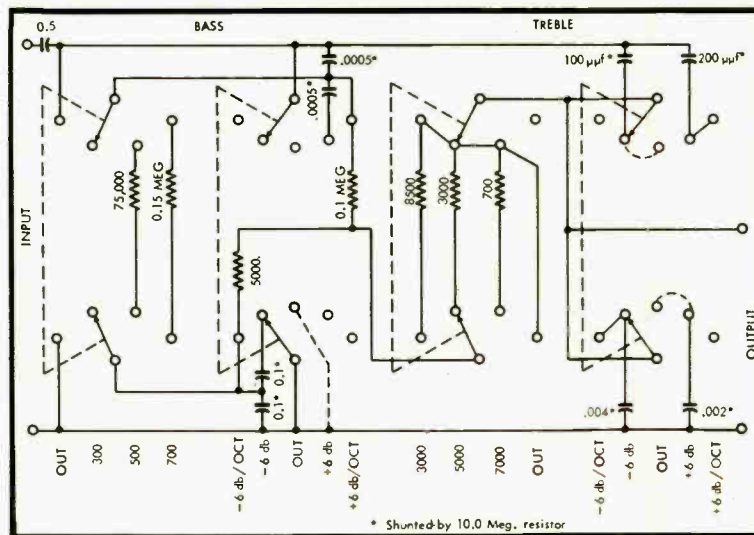
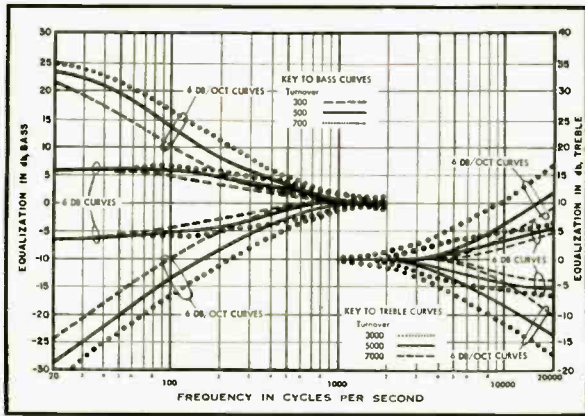
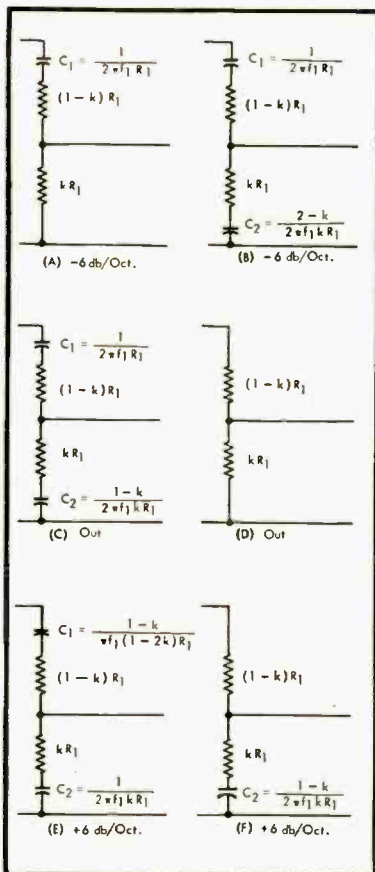

Fig. 1. Schematic of amplifier employing the tone correction circuits described in the accompanying text.
Fig. 2. Basic characteristics of the various equalization curves provided by the circuit of Fig. 1.
Fig. 3. Circuit configurations and formulas for bass equalizer section.
The circuit of Fig. 1 has been in use in the author's home amplifier for the past two years and provides both types of control. Four two-gang rotary switches are used—preferably of the shorting type. The circuit also uses fifteen resistors and eight capacitors exclusive of the input coupling capacitor. For simplicity, the diagram omits the 10 megohm resistors that are shunted across the eight capacitors to minimize switching transients. Two switches provide choices of nominal 3-db frequencies: OUT, 300, 500, or 700 cps for bass, and 3000, 5000, 7000, or OUT for treble. The other two switches provide corresponding choices of 6-db-per-octave droop, droop to a depressed 6-db plateau, boost to a 6-db elevated plateau, or 6-db-per-octave boost. The insertion loss is approximately 26 db, which is made up by a preamplifier. Other 3-db frequencies could be chosen or added by connecting other resistors to the switch contacts, and other maximum equalizations could be obtained by connecting other capacitors.
The various equalization curves for the circuit of Fig. 1 are shown in Fig. 2,
Examination of the left half of the circuit of Fig. 1 shows that it consists of a resistive voltage divider with a loss of approximately 26 db, and a set of capacitors for bass boost. The 3-db points are varied by shunting the resistive voltage divider with resistors. In general, the
For a selection of a 3-db frequency of 300 cps and a 6-db-per-octave bass droop, the bass equalizer reduces to the circuit of (A) in Fig. 3, where the total resistance $R_1 = 0.1$ megohms approximately, $k = 1/20$, and $f_1 = 300$ cps.
If "out" or flat response is chosen, the circuit of (C) in Fig. 3 is applicable (or (D) if switch connections are made according to the dotted lines of Fig. 1). The capacitive divider in this case has the same loss as the resistive.
If an elevated 6 db plateau is chosen, the circuit of (E) in Fig. 3 is applicable. A capacitive divider with 6 db less loss than the resistive begins to take over in the region of the nominal 3-db frequency.
For "out" or flat response, the circuit of (C) is applicable [or (D) if switch connections are made according to the dotted lines of Fig. 1]. In the latter case, the capacitive divider has the same insertion loss as that of the resistive.
It will be evident that the capacitors in Figs. 3 and 4 were chosen so that the 3-db points for Figs. 3A and 4A would be exactly f_1 and f_2 , and so that the attenuations of the capacitive voltage dividers would be exactly $k/2$, k , or $2k$ as called for. For small values of k , the expressions for calculating the capacitances become quite simple.